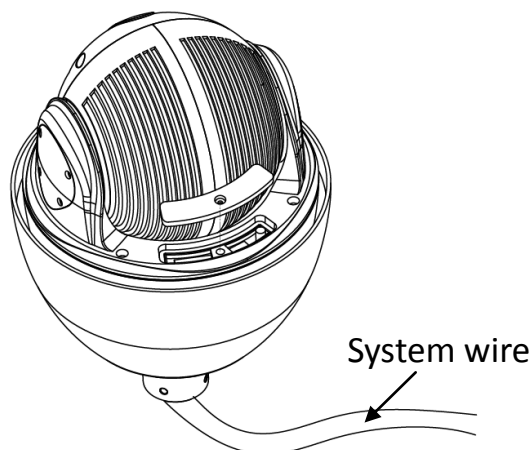

Figure 3
3. As figure 3 shows, please setup the related according to table 2 shows. And please ensure if the dome address is matched with your requiring address, if it's not matched; please setup according to the table 1.